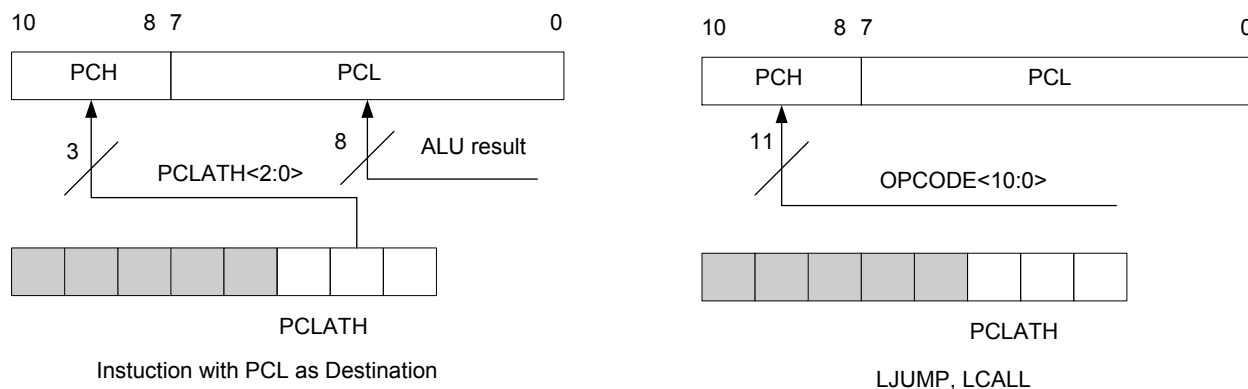

Figure 13-3 Loading of PC in different situations
The Program Counter (PC) is 11 bits wide. The low byte comes from the PCL register, which is a readable and writable register. The high byte PC[10:8] is not directly readable or writable and comes from PCLATH. On any Reset, PC clears. **Figure 13-3** shows the two situations for the loading of the PC.